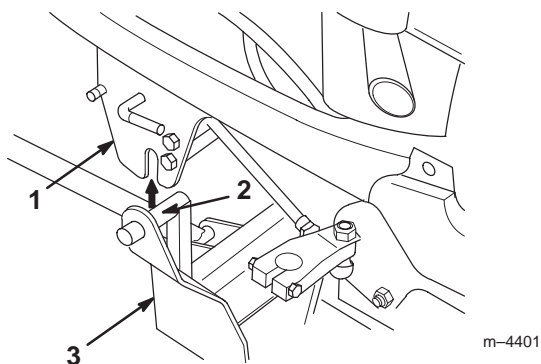

Figure 13
1. Pull the tractor toward the snowthrower until the snowthrower frame connecting pins are directly below the mid Attach-A-Matic hitch (Fig. 13)